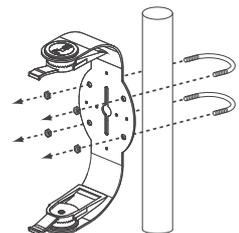

FIGURE 5:
3. If the installation requires that the speaker be mounted on a pole you can attach the MAGO6V2 brackets to the pole using **2.5" U-bolts (not included)** (see figure 5).